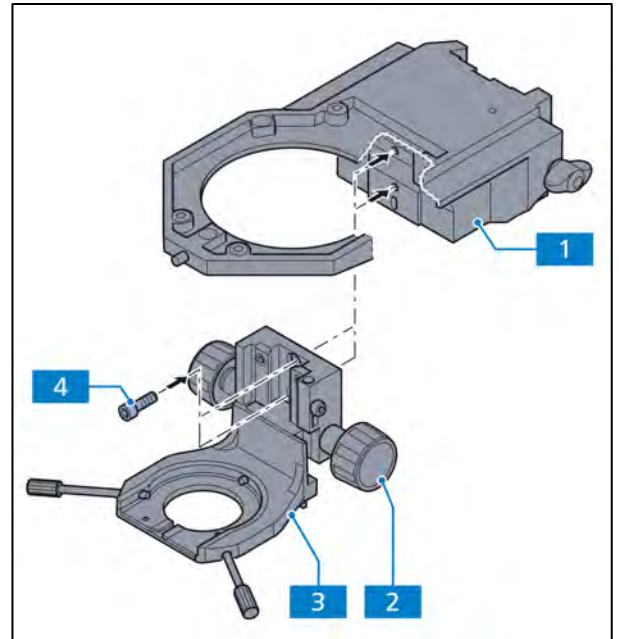

Fig. 3-21 Mounting the condenser carrier
- Adjust the guide of the condenser carrier (Fig. 3-21/3) using the coaxial knurled knob (Fig. 3-21/2) until both screws (Fig. 3-21/4) become accessible.
- Mount the condenser carrier on the stage carrier (Fig. 3-21/1), slide it firmly and straight up to the upper stop and tighten both screws.